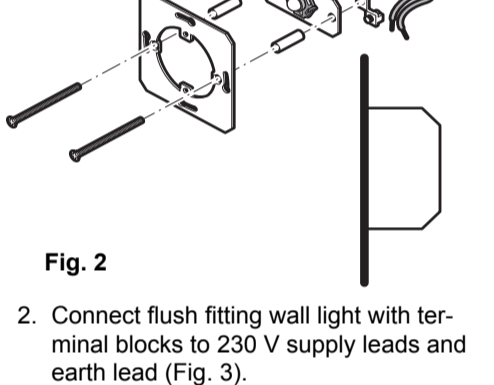

Fig. 2
- For a standard depth circuit connection box install the two longer distance sleeves (Fig. 2).